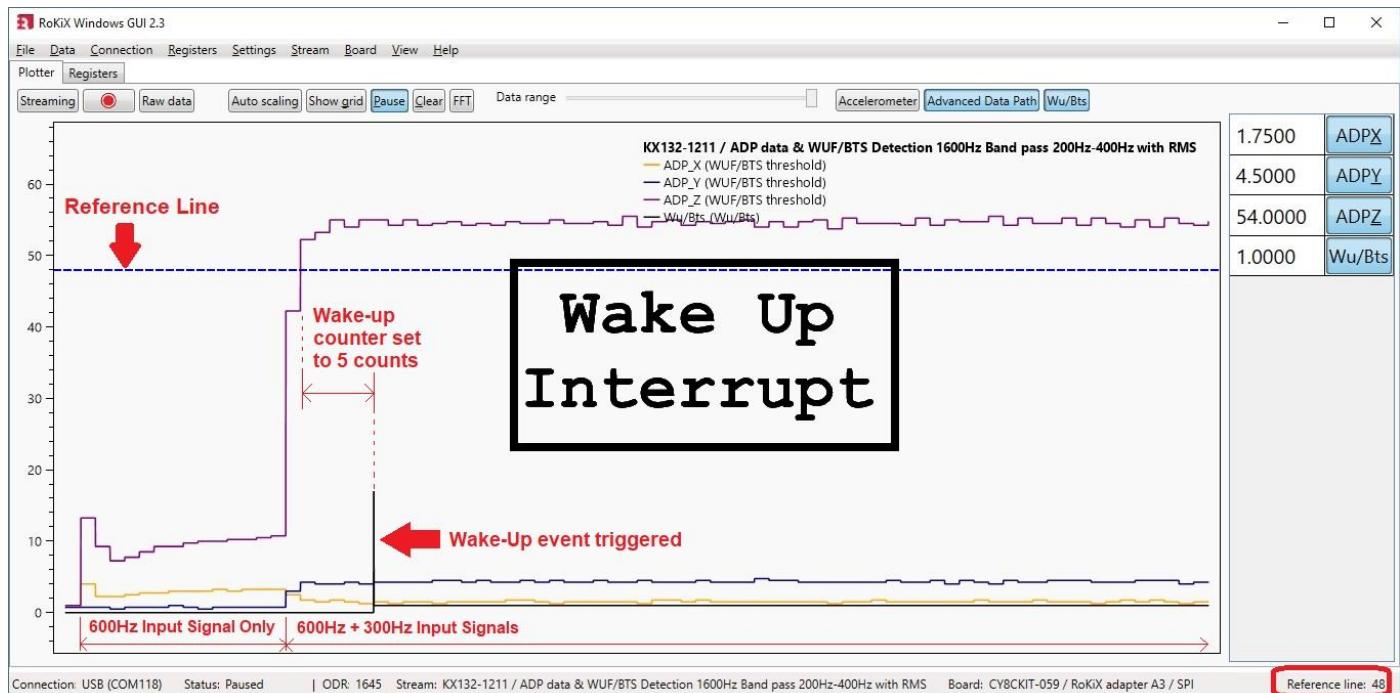

Figure 41: The plotter view with ADP & WUF data stream.
To review the ADP functionality further, consider an example shown in Figure 41. In this example, the selected stream for KX132-1211 sensors is ADP data & WUF/BTS Detection 1600Hz Band pass 200Hz - 400Hz with RMS. This stream, which is available for SPI communication board configuration only, has the Advanced Data Path configured to band-pass filter topology with signal bandwidth set from 200Hz to 400Hz. The output is then routed to the RMS engine and then to the Wake-Up/Back-to-Sleep engines. The wake-up threshold is set to 48 counts as indicated by the reference blue dotted line, and the Wake-up counter is set to 5 counts. When raw data (4.4.1.1) is disabled the selected data stream will scale ADP output directly to values (unit is WUF/BTS Threshold). Reference line is also moved to the wake up threshold level (48) for easier comparison of the threshold value and ADP output value (4.3.8.3). Also Wake up pop-up window is enabled (4.6.3). The pop-up window will appear when wake-up event is active e.g. when signal within band pass frequency range is present.